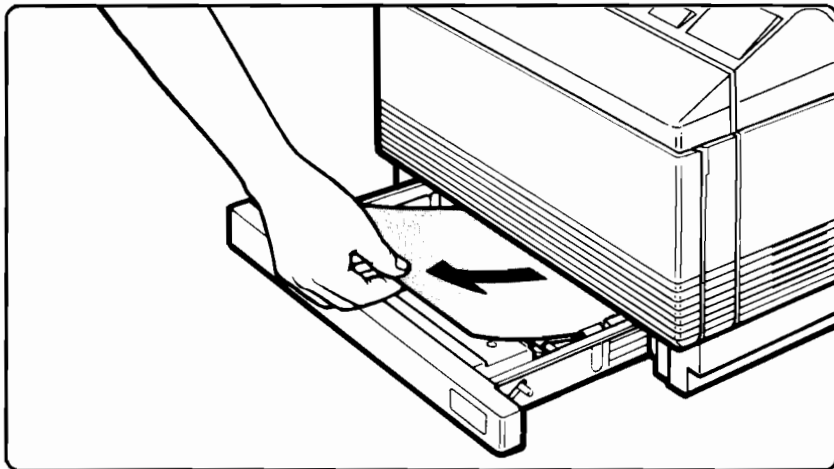
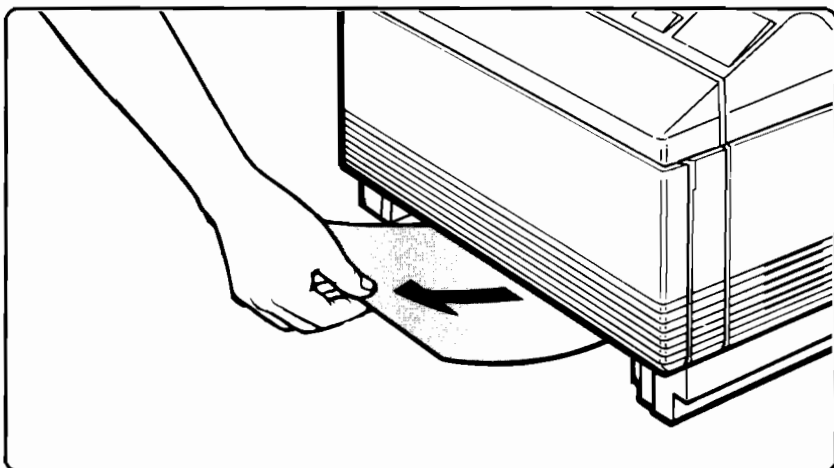

Figure 4-10. Clearing the Optional Lower Cassette Tray
Figure 4-11. Clearing the Optional Lower Cassette Base
2. If paper is jammed in the Optional Lower Cassette tray, remove the tray to clear (see Figure 4-10 and Figure 4-11).